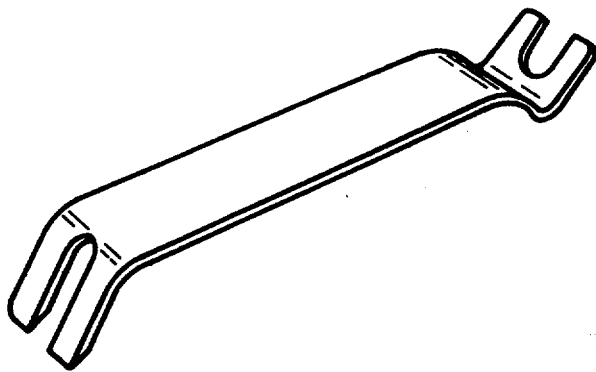

Figure 12-5. Pilot Valve Wrench P/N 370109
- (9) Use pilot valve wrench, figure 12-5, and place it between speeder spring (43) coils on spring seat (85). Disengage spring from its seat. Hold seat with wrench and bend spring towards open end of bottom coil. At the same time turn spring to disengage coil from seat lip.
- (10) Remove taper pin (44) from terminal lever (146) using
flyweights have been moved from their extreme inward to their extreme outward position. If the pilot valve plunger is too low, use pilot valve wrench (figure 12-5) to hold spring seat (85) stationary, and turn pilot valve plunger counterclockwise to raise it. If the plunger is too high, hold spring seat and turn plunger clockwise to lower it. When pilot